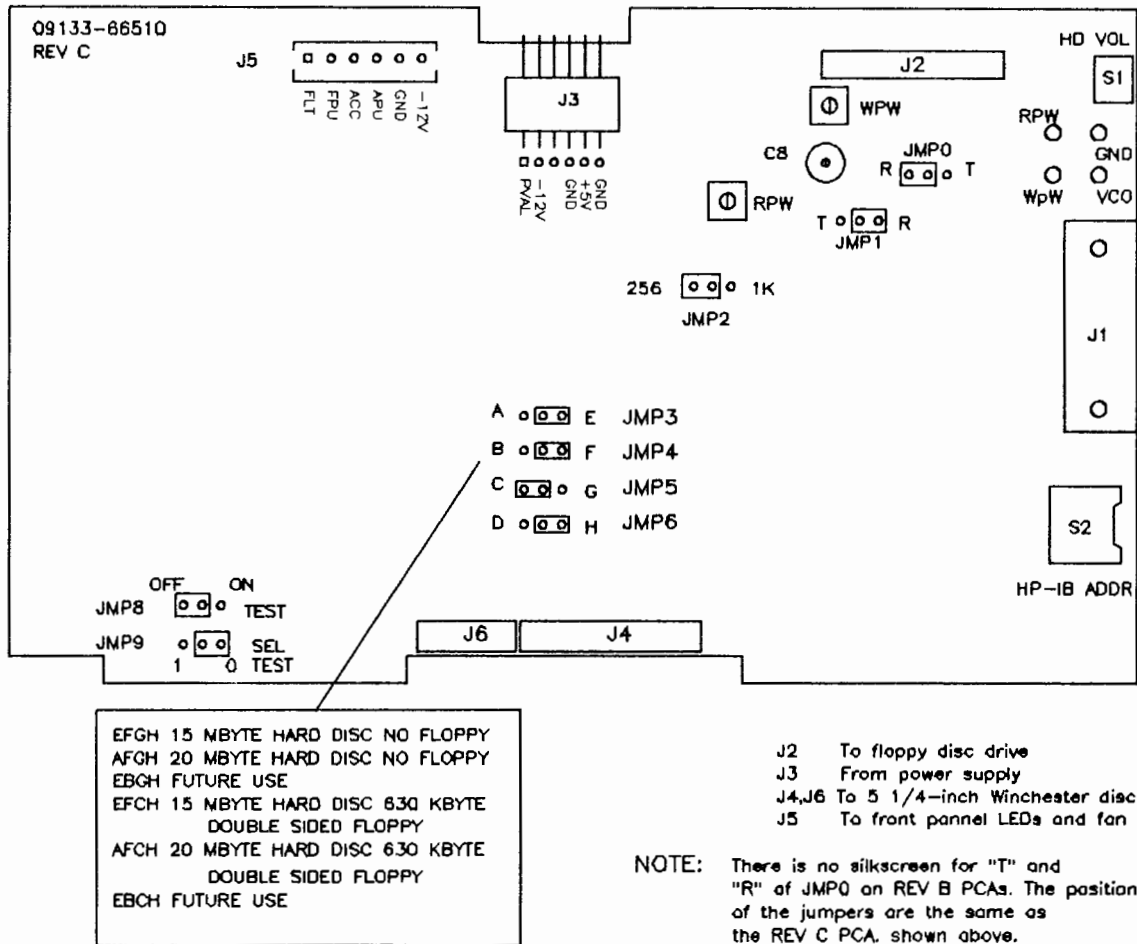

Figure 4-1
Figure 4-1 shows the test-points, adjustments, jumpers, and key components on the Drive Control PCA.
2. Select the RAM test using TABLE 1 to set the switches correctly. (Refer to FIGURE 4-1 for jumper locations.)